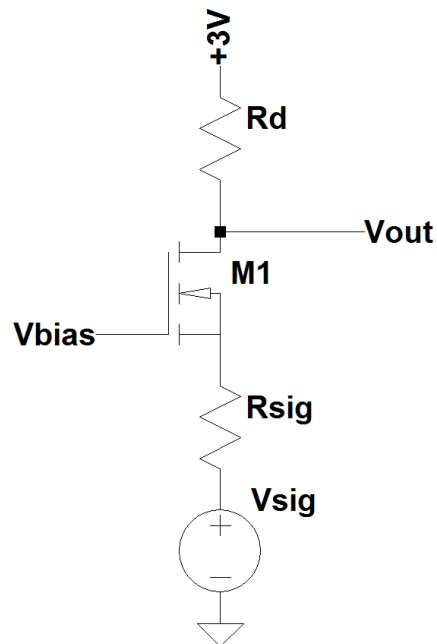

Figure A3: A SPICE model of a common gate amplifier.
b. **Figure A3** shows a SPICE model for a common gate amplifier. The MOSFET in the circuit, labelled M1, has the following parameters:
- i) Calculate the overdrive voltage, V_{OV} , the transconductance, g_m , and the output resistance, r_o , of transistor M1. (3)
- ii) Draw the small signal model of this circuit. Use the 'T' model for transistor M1 and include the effects of channel length modulation – you may ignore parasitic capacitances. (5)
- iii) By ignoring the effects of channel length modulation, derive an expression for the gain of the amplifier, showing your working. Calculate this gain if the signal source V_{sig} has an output resistance, R_{sig} of $5k\Omega$ and the drain resistor, R_d , is $50k\Omega$. (3)
c. For implementation on an IC, the drain resistor in **Figure A3** can be replaced by a PMOS current mirror active load.
- i) Redraw **Figure A3** to show how you would implement this current mirror, showing where an external resistor would be connected to realise the reference current for the mirror. (4)
- ii) If the PMOS transistors used in your mirror have a channel length modulation parameter $\lambda=0.025V^{-1}$, determine the gain of your redesigned amplifier (you may again ignore channel modulation effects for transistor M1 in this calculation). The bias current remains the same at $150\mu A$. (2)